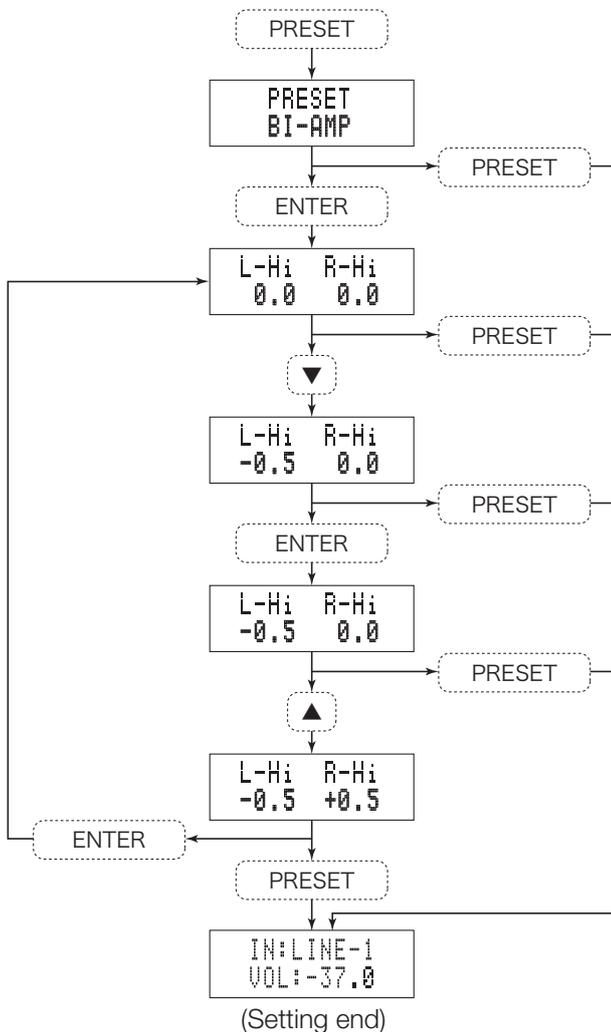

Fig. 2
(1) When the preset button is pressed in a state where the output mode is bi-amp, the unit enters the preset mode of bi-amp. (Display on the 1st row of Fig. 2)
(2) When the next time the enter button is pressed, the level of L-Hi starts blinking and the level adjustment of L-Hi ch becomes available. (Display on the 2nd row of Fig. 2)
(3) Pressing ▲ increases the sound volume of L-Hi ch in steps of 0.5 dB.
Example) Pressing ▼ once displays -0.5 dB. (Display on the 3rd row of Fig. 2)
(4) When the enter button is pressed, the level of R-Hi starts blinking and the level adjustment of R-Hi ch becomes available.- (Display on the 4th row of Fig. 2)
(5) Pressing ▲ increases the sound volume of R-Hi ch in steps of 0.5 dB.
Example) Pressing ▲ once displays +0.5 dB. (Display on the 5th row of Fig. 2)